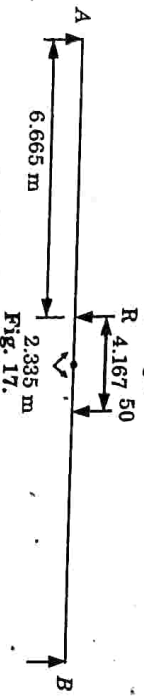

Fig. 17.
- i. For the condition of maximum BM under the 50 kN load, the wheel load system should be so placed that the resultant load and the 50 kN load should be equidistant from the mid section of the girder (Fig. 17).